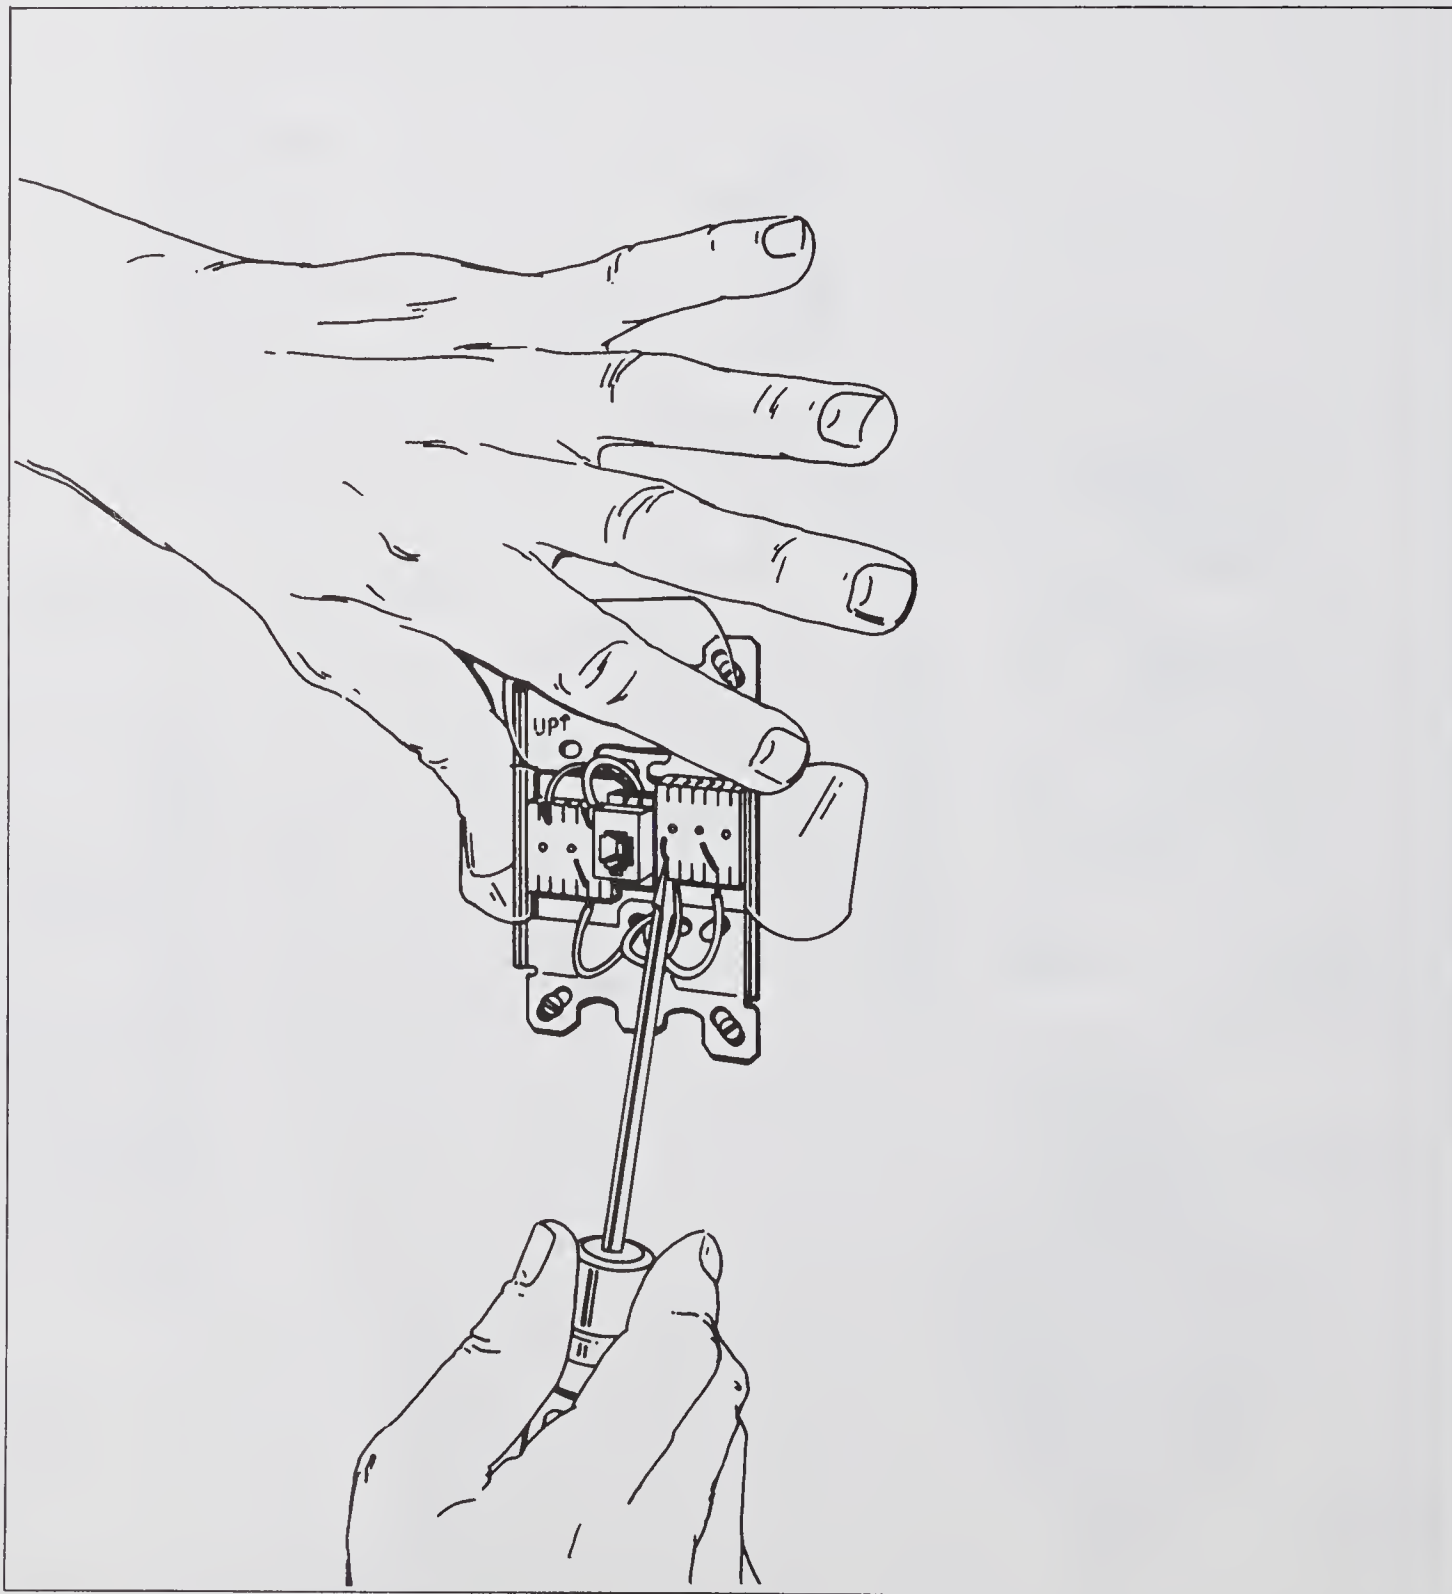

Figure 4-17.
11. **B.** The connector caps are designed to give trouble free installation; however, if a connector cap is lost or if it is easier for you, the conductors can be pushed into the back plate connector slots with a screwdriver as shown in *Figure 4-17*. Use a screwdriver with a thin tip so that the connector will not crack. Make sure the conductor is pinched between the metal fingers in each slot. The insulation doesn't have to be stripped from the wire, but it may be a good idea to do so to make sure the bare wire is being pinched correctly. Some wall telephone modular jack plates include a small plastic tool to make the above insertion, or for making the insertions shown in *Figure 4-16*.